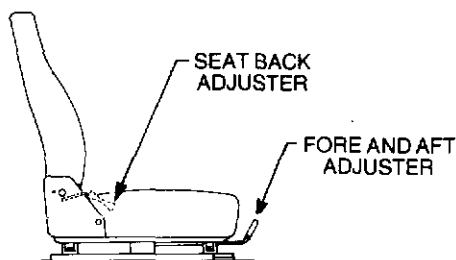

Figure 1-15 Seat adjustment
Cabin seating (Fig. 1-15)
80. The cabin seating is adjustable as illustrated in Fig. 1-15. The passenger's seat cushion must be removed to gain access to the battery.